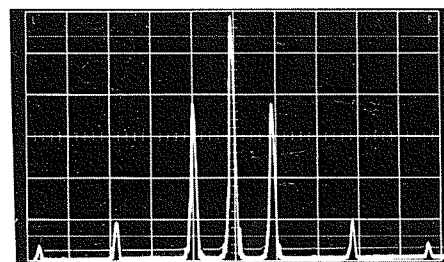

Figure 4.
Fig. 4 shows an overmodulated AM signal. Note the characteristic AM spectrum, consisting of a carrier and two sidebands, and the presence of additional, unwanted sidebands. Spurious sidebands, together with primary sidebands where amplitude is greater than one-half the carrier (100% modulation yields sidebands which are one-half the carrier amplitude) positively identify overmodulation.
Overmodulation can be distinguished from two-tone modulation in two ways, evident by comparison of Figs. 4 and 6: (1) Spacing between overmodulated sidebands is equal while two-tone sidebands are arbitrarily spaced; (2) The amplitude of overmodulated sidebands decreases progressively from the carrier, but amplitude of two-tone sidebands is determined by the modulation percentage and can be arbitrary.